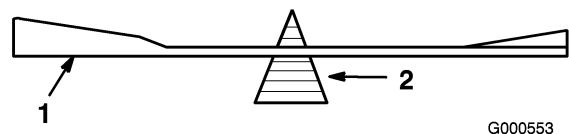

Figure 42
2. Check the balance of the blade by putting it on a blade balancer (Figure 42). If the blade stays in a horizontal position, the blade is balanced and can be used. If the blade is not balanced, repeat the sharpening procedure on the heavier side until the blade is balanced.